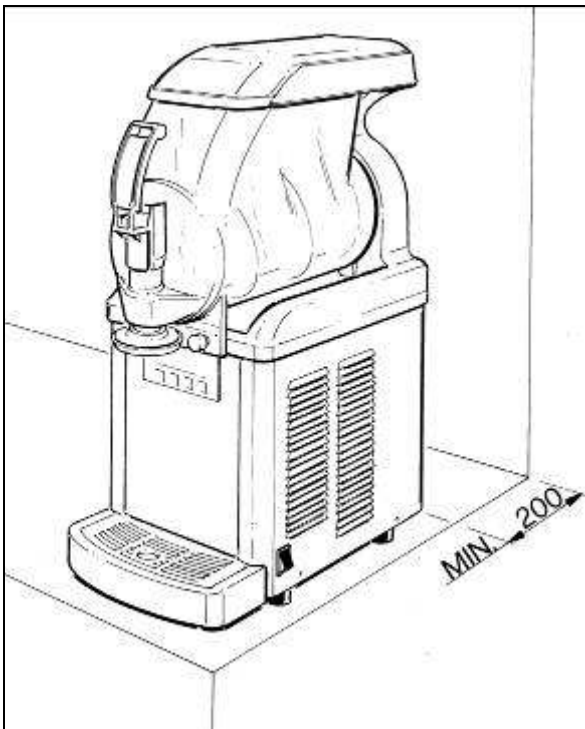

Fig. 20
b) Rest the machine on a sturdy, flat surface making sure it is well ventilated by leaving a gap of 20 cm around it and do not install it near heat sources (fig.20); **we recommend you to maintain a room temperature between 24 and 32°C.**